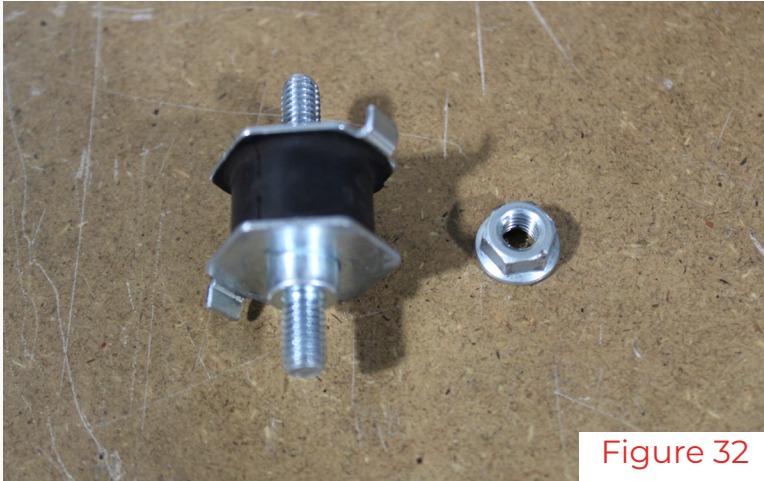
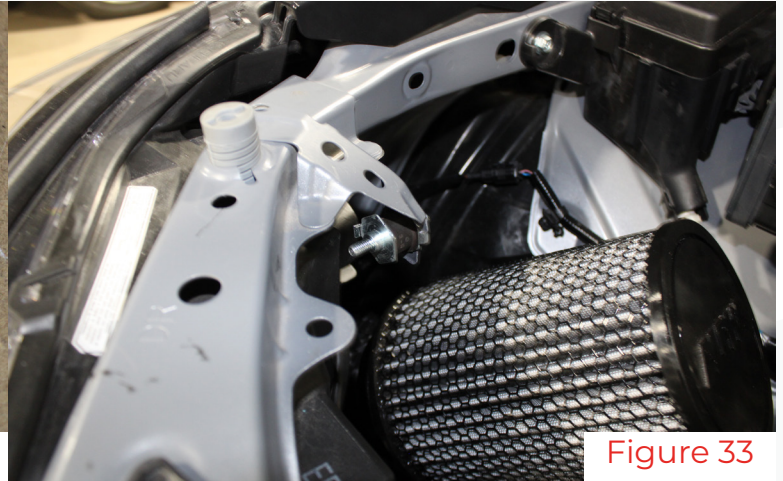

Figure 32
Figure 33
3. Reusing the small M6 nut to mount the isolator (Figure 32) back on the vehicle bracket where it came out of but on the reverse side (Figure 33 & 34).